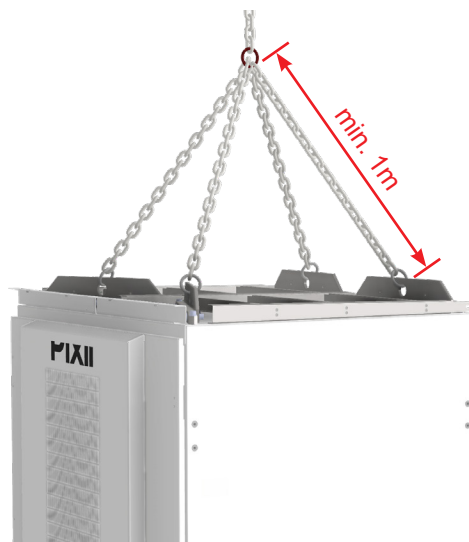

Figure 3.6 Cabinet lifting
- Fix chains or straps (minimum length 1m) to all lifting brackets (see *Figure 3.6*), securely lift and move system to the desired position.